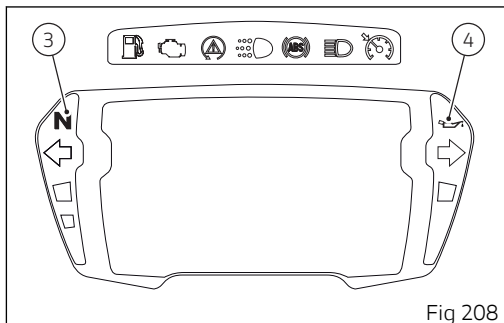

Fig 208
The red oil pressure warning light (4, Fig 208) should go out a few seconds after the engine has started. The engine will shut off by turning the red button (1) on the handlebar to RUN OFF. To turn on the "Hands free" system and all electronic onboard systems, refer to page 248 "Hands Free System".